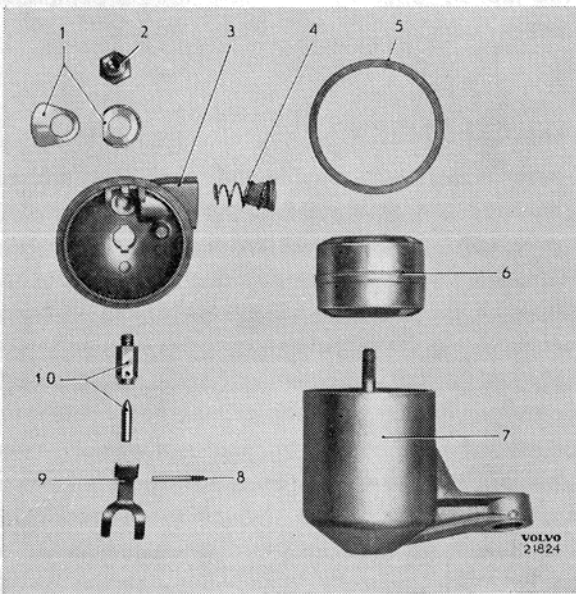

Fig. 12. Float chamber disassembled.
2. Remove the nut on the float chamber cap. Remove the cap and lift out the float. See Fig. 12.